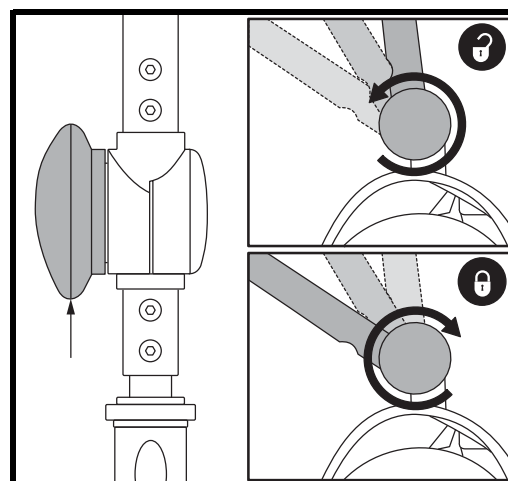

Figure 17. Tiller Adjustment Knob
TILLER ANGLE ADJUSTMENT (See figure 17)
1. With the seat and battery pack removed (see Disassembly Procedures on previous page), lower the tiller and tighten the tiller adjustment knob. See figure 17.
3. Raise the tiller and fully tighten the tiller adjustment knob. See figure 17.